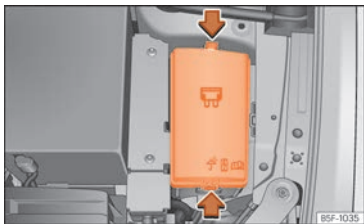

Fig. 54 In the engine compartment: fuse box cover.
- Press the locking tabs to release the fuse box cover »» **Fig. 54**.